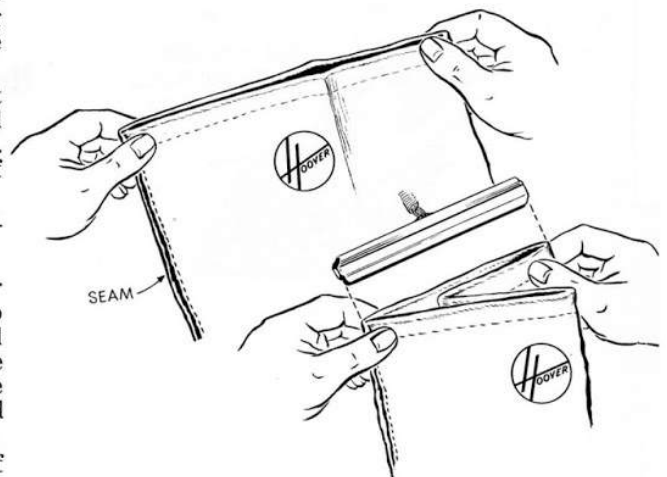

Fig. 3
- First pinch together the two halves of the bag at the seam and flatten it out. See Fig. 3.